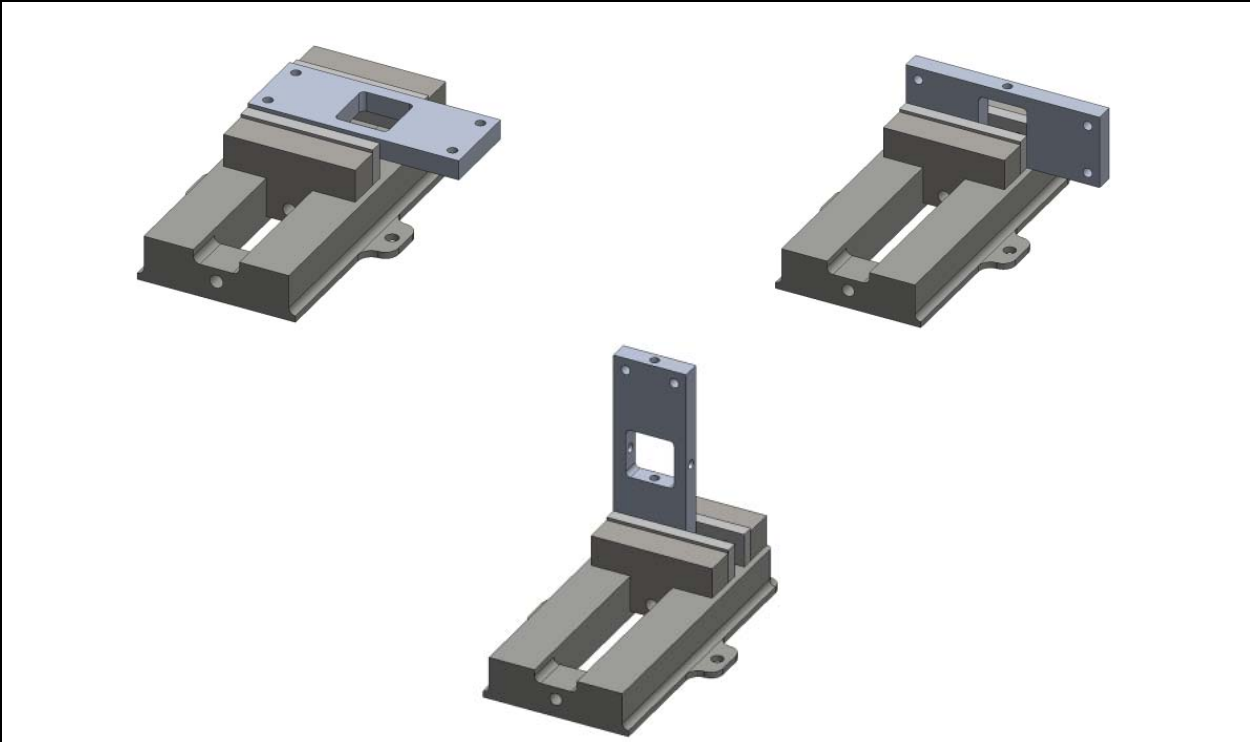

Figure 3.1 – Multiple setups required for a part that cannot be machined TOP DOWN
- Figure 3.1 shows an example of a part which requires multiple setups to machine. This part will need to be repositioned in the vise four to five times to drill all the required holes in the sides consuming much time and effort. The more often a part is repositioned (clamped) in the machine the greater the possibility of misalignment of the features.
- The milling machine being used may not have the required travel in the Z-axis needed to drill the end holes (shown in the third setup of Figure 3.1). Remember the drill chuck extends approximately 3 inches, the ¼" dia. drill extends 4" and the part on end extends approximately 6" high, resulting in a consumption of 13" of the milling machines Z axis travel.
- The part clamped on end (Fig 3.1 C) will also accentuate the deviation of the hole positioning (0.1 degree off perpendicular on a 6" protruding clamped part in the vise will cause a positioning error of the drilled hole by 0.010") Trying to ensuring the part is clamped perpendicular by this amount or better is very time consuming) .